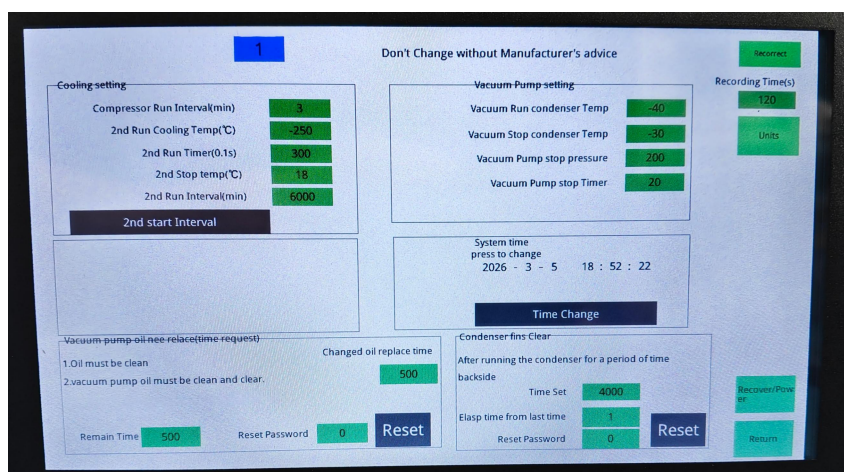

Figure 7-3: Various operating parameters of the system
(3) Settings: Used to configure all operating parameters of the system (See Figure 7-3).